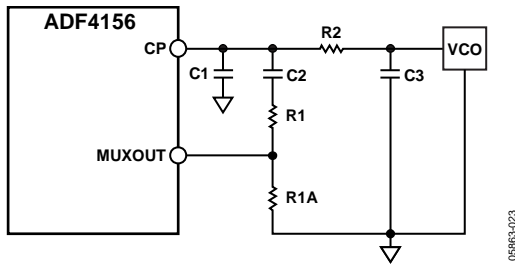

Figure 22. Topology 1—Fast-Lock Loop Filter Topology
- Topology 1: Divide the damping resistor (R1) into two values (R1 and R1A) that have a ratio of 1:3 (see Figure 22).